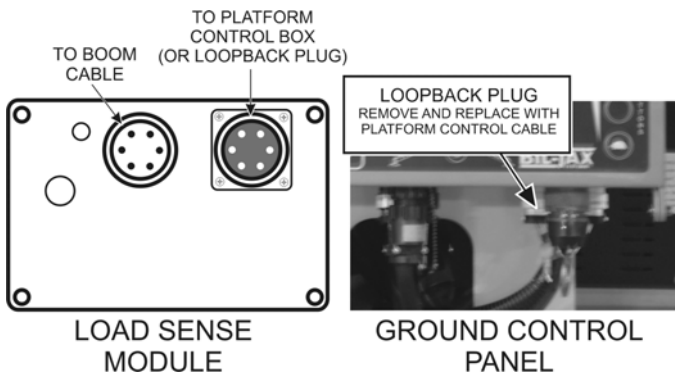

Figure 8-1. Material Lifting Hook Configuration
- ❑ Remove the electric loopback plug from the receptacle on the bottom right of the ground control panel (Figure 8-1) and insert the platform control cable into the open receptacle.